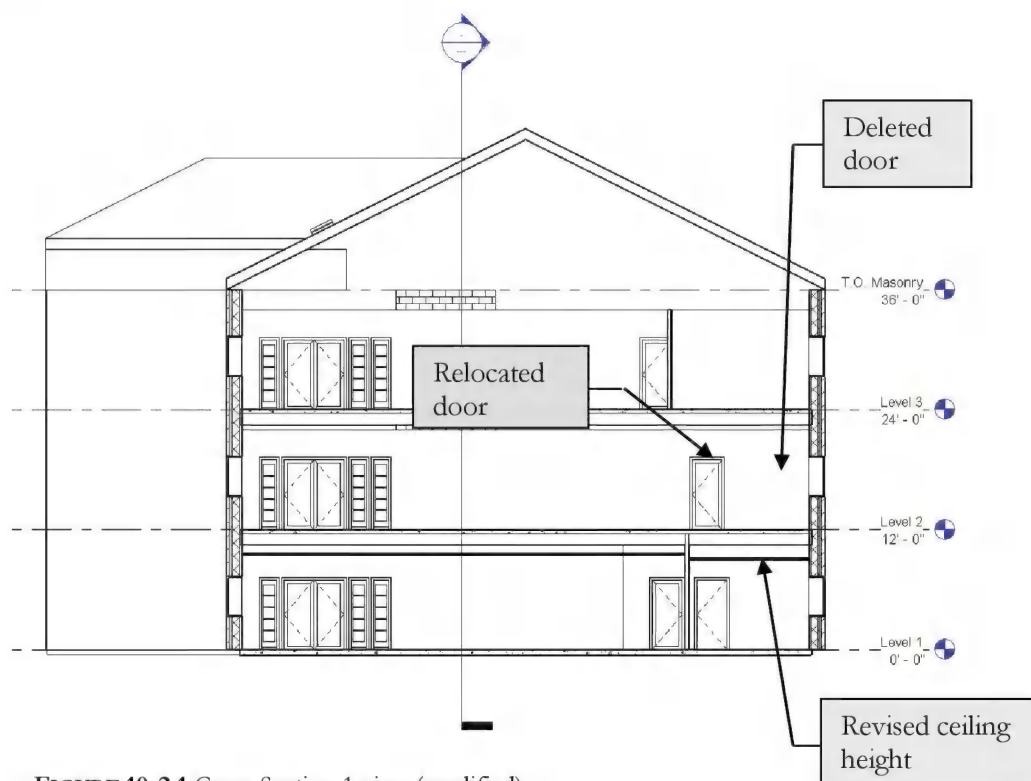

FIGURE 10-2.1 Cross Section 1 view (modified)
3. On **Level 2**, move the *Single Glass* door **5'-0"** to the north and **delete** the door added in a previous lesson; see modified section view Figure 10-2.1. (See Figure 10-1.6 for an unmodified view.)
4. Adjust the **ceiling height** in the lower right room to be **9'-0"** above Level 1 (Figure 10-2.1).